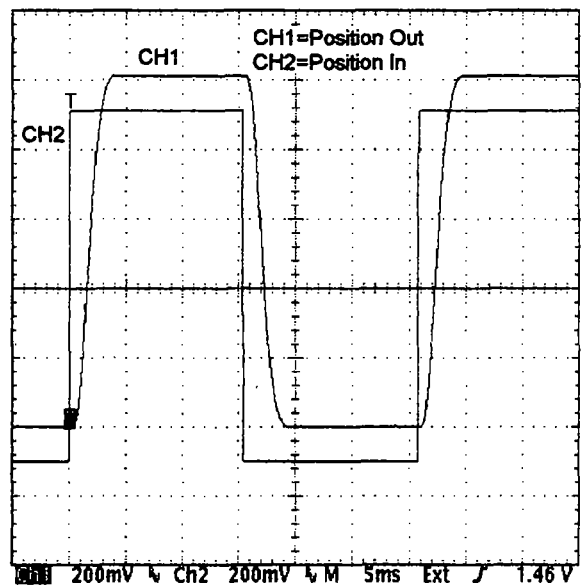

Figure 5.
11. Turn R25 CW until the undershoot is minimized. See Figure 5.